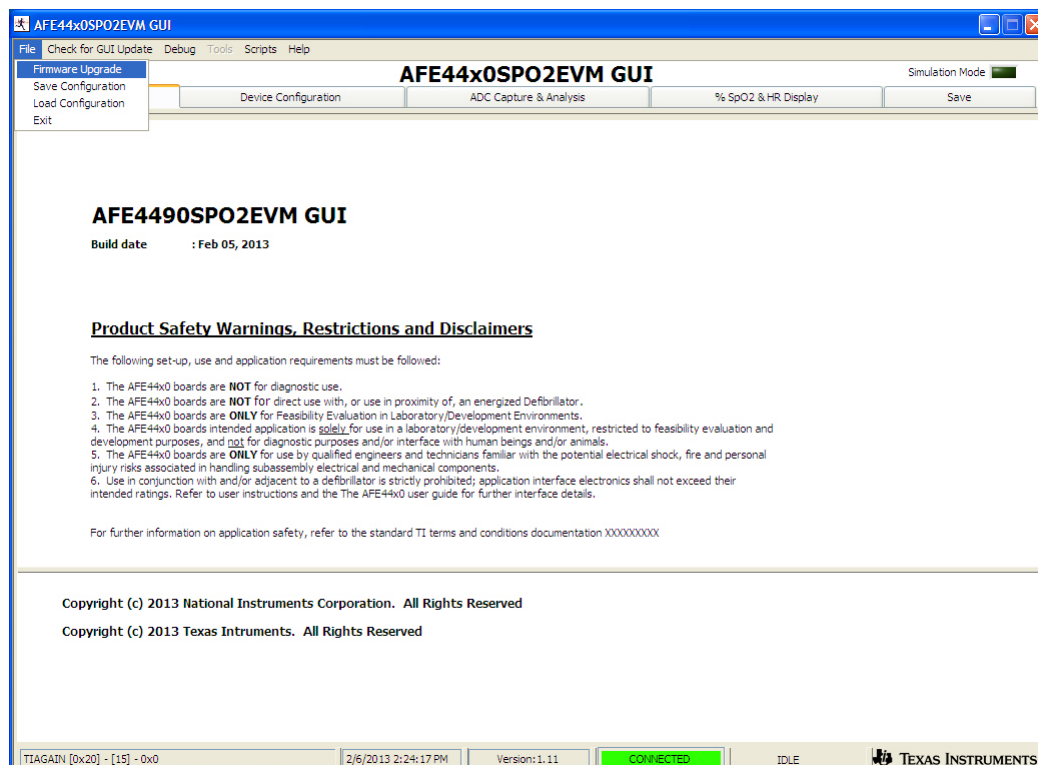

Figure 31. PC Application Firmware Upgrade – 1
- From the PC application, click on *File* → *Firmware Upgrade* as shown in Figure 31